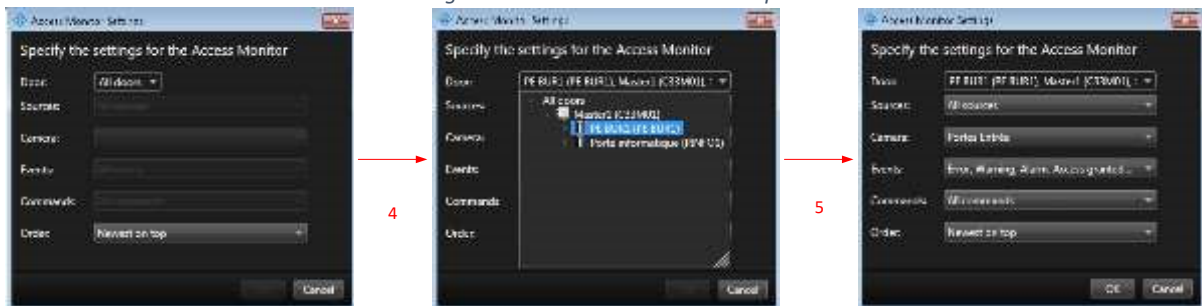

Figure 32: Access control view fine tuning
Once this operation achieved, a window is open to precisely define the content of the access control view. It is first required to select the event source (4) then to select the camera (if several are linked to the source), the events, the commands and the order followed by the display of events as illustrated in Figure 32.